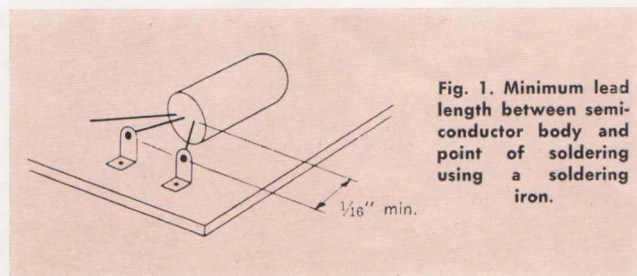

Fig. 1. Minimum lead length between semiconductor body and point of soldering using a soldering iron.
1. At a tip temperature not exceeding 245 °C, the permissible soldering time is 10 secs. provided that the point of soldering is at least a distance of $\frac{7}{32}$ " from the sealing on the bottom of the case. At a distance of $\frac{1}{16}$ " from the sealing, the maximum soldering time is 3 secs. for the same iron temperature. Solder should not be applied closer than $\frac{1}{16}$ " from the seal (see Fig. 1).